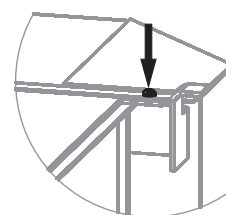

Figure 17. Drilling screws for dismantling of the tank
4. Disconnect the tank by unscrewing 2 self-driving screws (Figure 17)